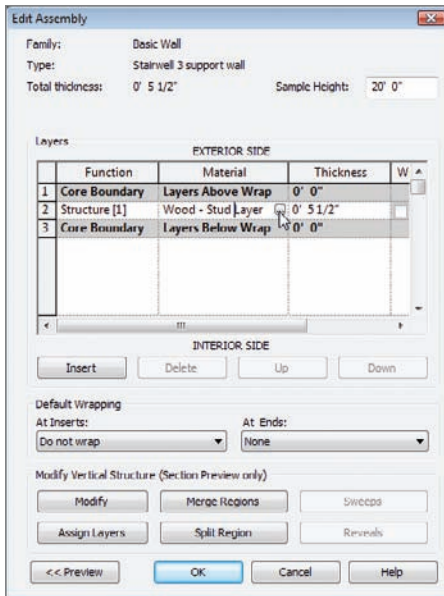

FIGURE 16.1 Changing the structure to a 5 1/2" wood stud
8. Click into the Material cell for the Structure row, as shown in Figure 16.1.
11. Change the thickness to 5 1/2", as shown in Figure 16.1.